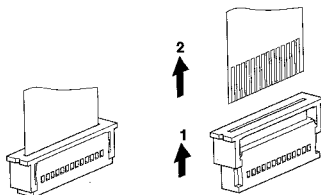

Fig 4.4
- Remove the "flex foil" from the connector(s) on the PCB by lifting the upper part of the connector and taking the flex foil out. (see Fig 4.4)